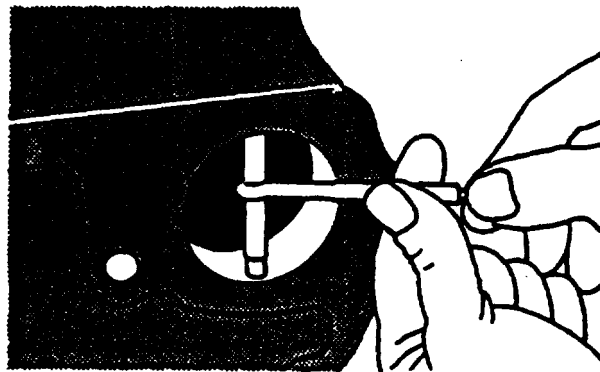

FIGURE 3-140. Measuring Camshaft Bore Diameter
- (5) Measure camshaft bore diameter, refer to FIGURE 3-140. New diameter is 2.204 to 2.205 inches (55.98 to 56.01 mm). If diameter is more than specified, install a new engine block. New camshaft journal clearance (camshaft bore ID minus camshaft journal OD is 0.003 to 0.005 inch (0.08 to 0.13 mm). Maximum clearance is 0.006 inch (0.15 mm).